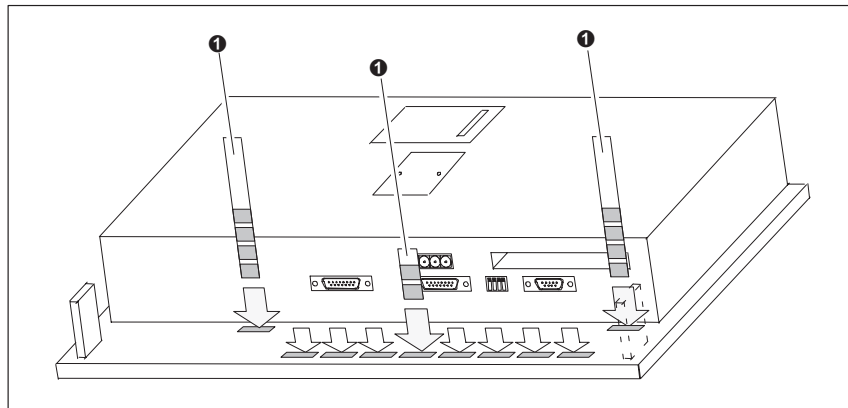

Figure 16-3 Inserting labeling strips
3. Insert the new strips **1** with the inscription facing downwards into the slits at the rear of the front plate (see Figure 16-3).